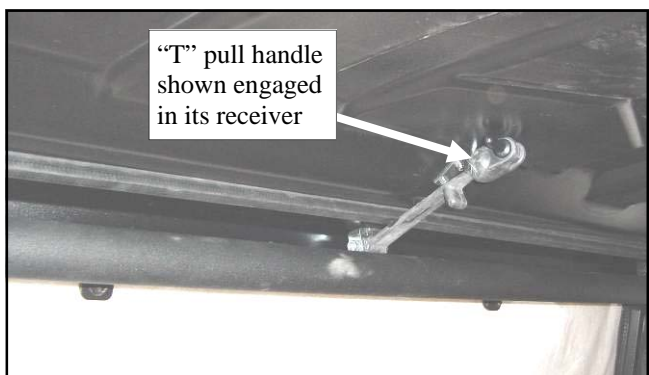

Fig. 5.4 (view from front passenger’s side)
5.4 Per fig. 5.4, pull and stretch the rubber “T” handle strap to engage it in its receiver bracket.